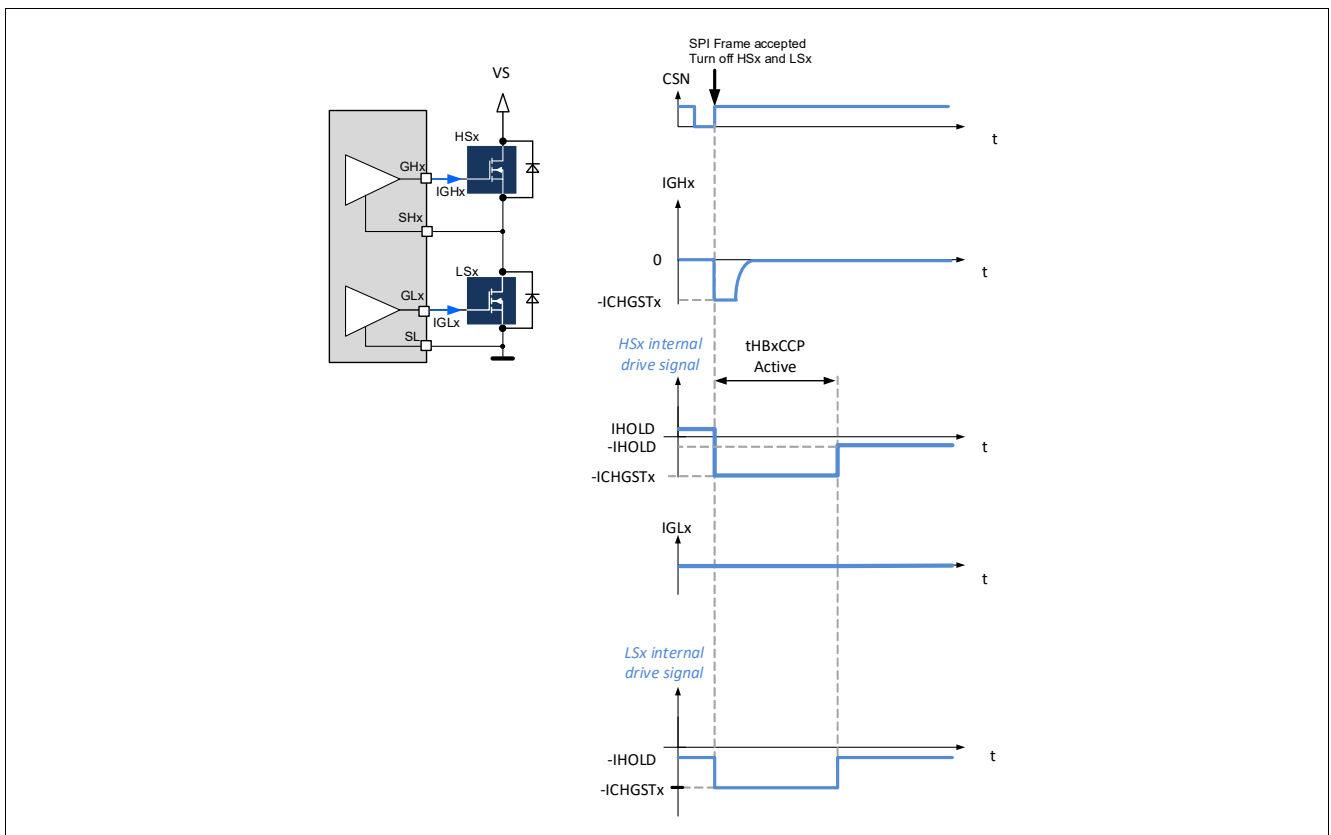

Figure 25 Turn-off of the high-side and low-side MOSFETs of a half-bridge
- The gate of HSx and LSx are discharged with the current $-ICHGSTx$ for the duration $t_{HBxCCP ACTIVE}$ (Figure 25).